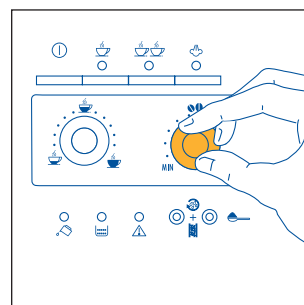
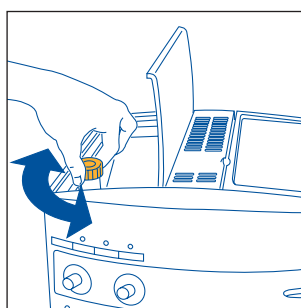

Fig.7
Fig. 17
- 2) Adjust the right-hand knob (Fig. 7) to set the desired taste of the coffee. Turning the knob clockwise increases the quantity of coffee beans that the machine will grind, and thus makes the taste of the coffee stronger. When using the machine for the first time, the correct position of the knob can be found by trial and error. Make sure not to turn it too far clockwise, otherwise the coffee will be delivered too slowly (in drops), above all when preparing two cups of coffee.
NOTE 1: : If the coffee is delivered a drop at a time or not at all, turn the grinding coarseness regulator (fig. 17) one click clockwise (see para. 6). Turn a click at a time until the coffee is delivered satisfactorily.
NOTE 2: If the coffee is delivered too fast and is not creamy enough, turn the right-hand knob (fig. 7) clockwise. Proceed by trial and error to find the correct position of the knob. Make sure not to turn the knob too far clockwise, otherwise the delivery may become too slow (in drops), above all when making two cups of coffee. If, after several coffees, the cream is still not satisfactory, also turn the grinding adjustment knob (Fig. 17) one click clockwise (see para. 6).
To resolve this problem, re-set the grinding coarseness on the coffee grinder by adjusting the knob (Fig. 17) one click anticlockwise (as described in chap. 6).
Nonetheless, after having made the first coffees, if delivery is too fast or too slow (in drops), the grinding coarseness must be adjusted using the knob (Fig. 17) located inside the bean container. Turning one click (one number) clockwise achieves faster delivery of the coffee (without drops).